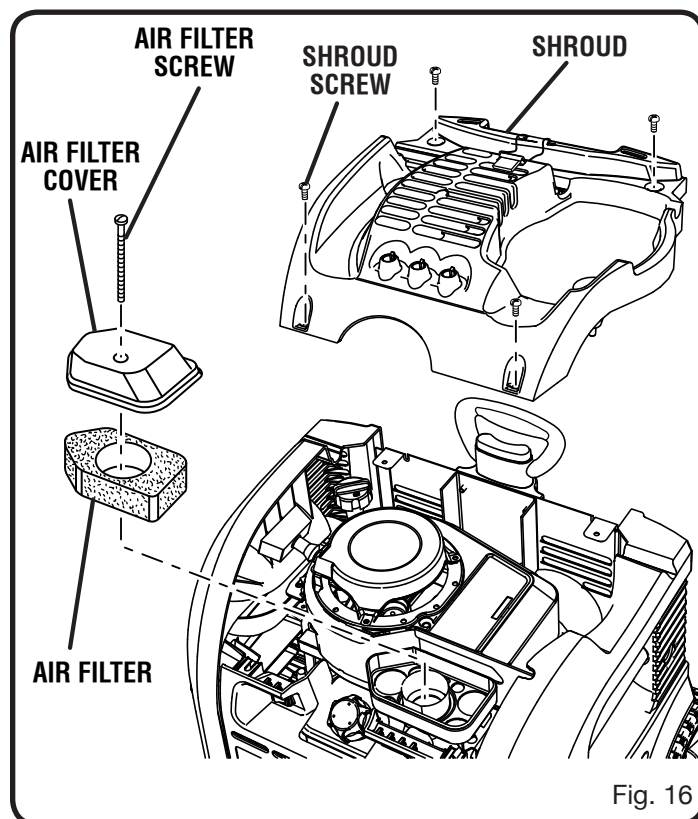

Fig. 16
See Figure 16.
- Remove the shroud screws holding the shroud in place as shown in figure 16.